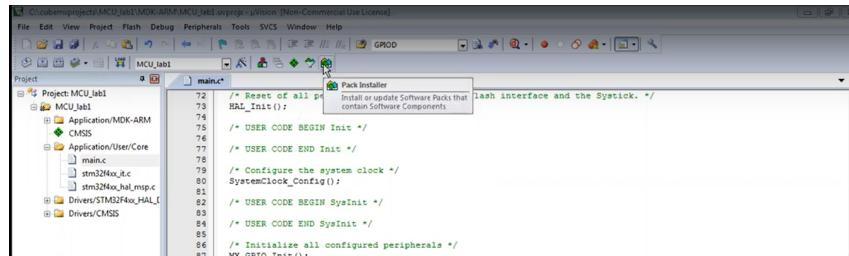
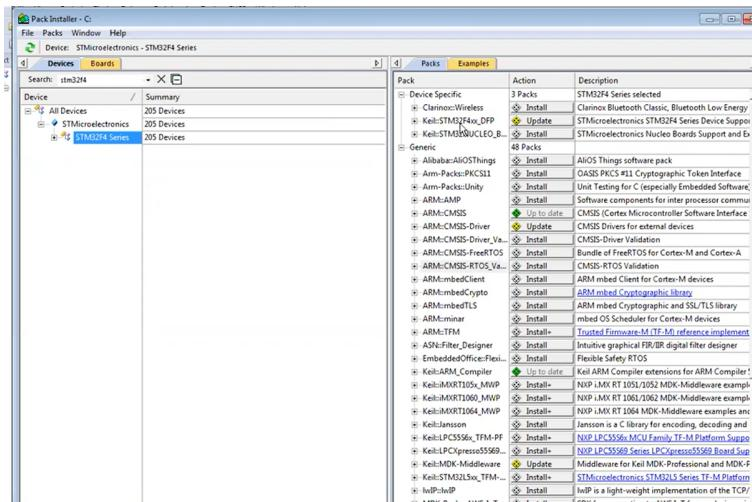

Figure 13
Figure 14
9. First, we need to come to the Pack Installer (Figure 13) and install the package of the relevant microcontroller, as we did in CubeMx. The relevant microcontroller is selected and Install is selected for the required package (Figure 14).